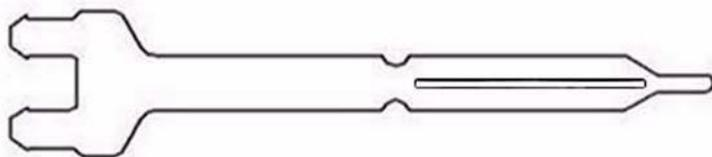

Fig. 2 Isolating Foil
- ❖ Check if isolating foil is complete and undamaged as shown in Fig. 2.